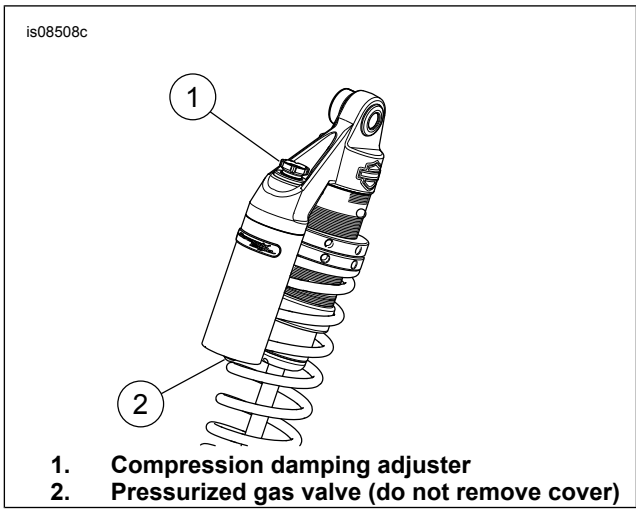

Figure 5. Shock Absorber Compression Damping Adjusters
1. See Figure 5. Turn the compression adjuster clockwise (toward H) until it stops. This is the maximum compression damping setting.